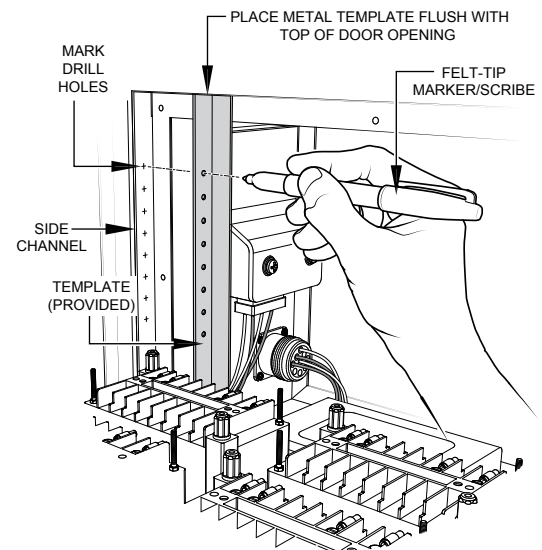

Figure 5. Air Ventilation Hole Markings
1. Using the supplied template, place the template flush with top of door opening, against the side channel and mark the holes with a felt tip marker or scribe as shown in Figure 5.